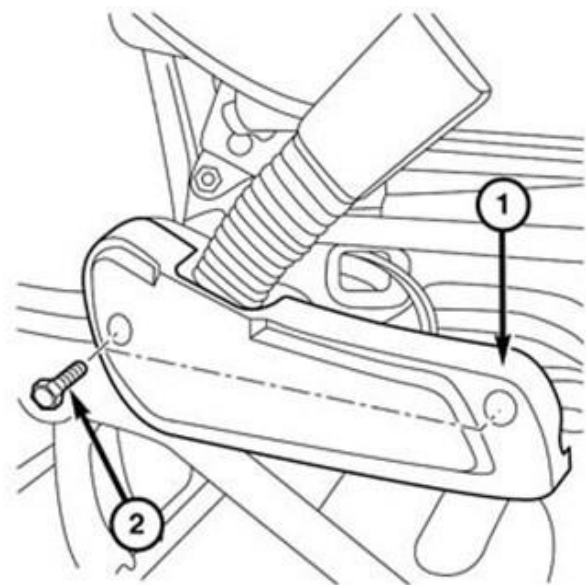

Figure 2 – Buckle Trim Cover
4. **Driver side seat:** Remove the two screws (2) that secure the trim cover (1) over the buckle tensioner on the inboard side of the driver seat cushion frame (Figure 2).
5. Remove the driver side trim cover (1) from over the buckle tensioner (Figure 2).
24. Position the trim cover (1) over the seat belt buckle tensioner on the inboard side of the seat cushion frame. (Figure 2).
25. Install and tighten the two screws (2) that secure the trim cover over the buckle tensioner. Tighten the screws securely (Figure 2).